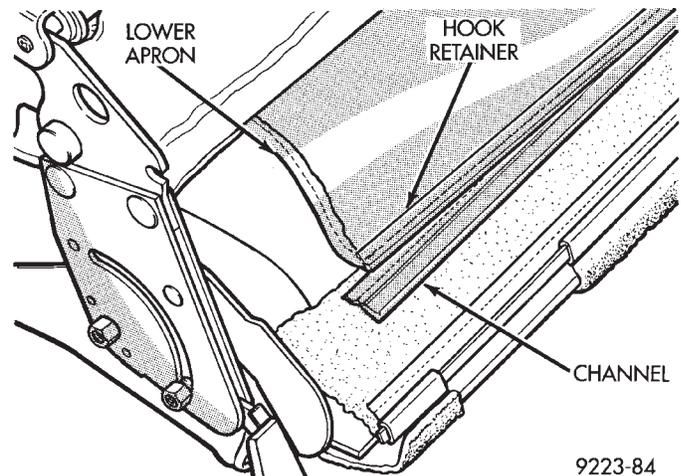

Fig. 43 Hook and Channel Retainer
- (1) Remove seat from vehicle.
- (2) Remove upper and lower seat back hinge covers.
- (3) On three passenger seat, disengage hook and channel retainer holding seat back lower apron to the rear rail cover (Fig. 43).
- (4) Disengage interlocking J-strips holding carpet cover together below rear rail.
- (5) Remove bolts holding left seat back hinge and spacer to rear rail.
- (6) Remove nuts holding seat back hinges to seat back frame.